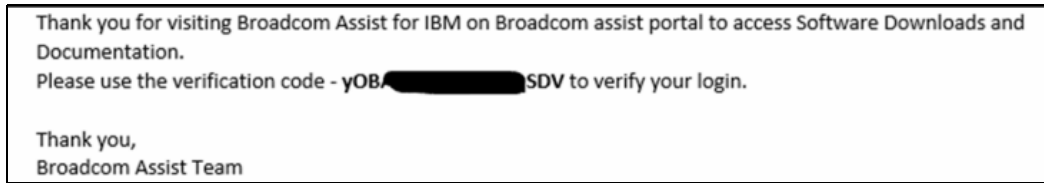

Figure 9-8 Verification code in your email
12. You will be sent a verification code to your email address. See Figure 9-8.